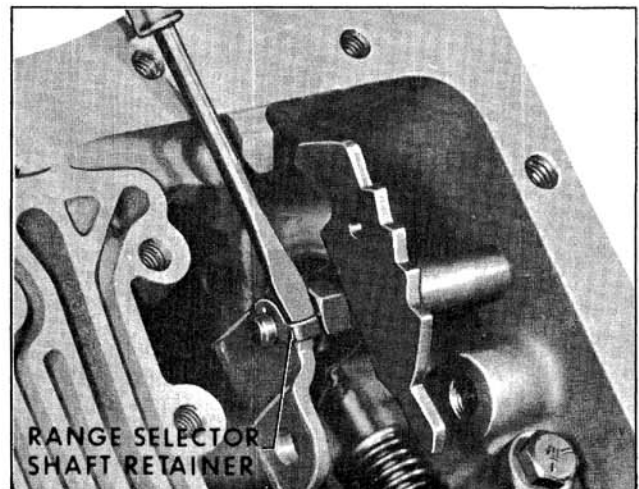

Fig. 6-386 Removing Selector Shaft Retainer
2. Remove range selector shaft retainer. (Fig. 6-386)